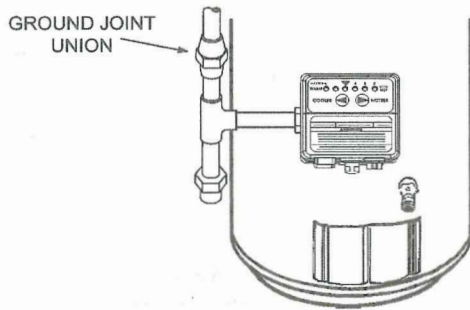

FIGURE 6.
7. Disconnect the gas supply piping to the water heater preferably at the ground joint union (*if installed*), see Figure 6.
8. Disconnect all the piping from the Intelli-vent™ Thermostat Control, (184768 Series), see Figure 6.